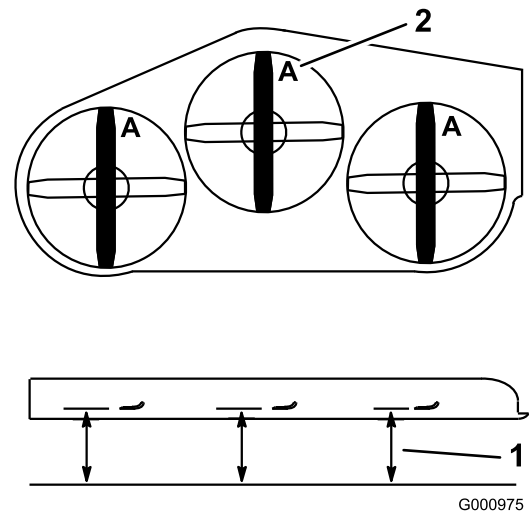

Figure 113
2. Measure from a level surface to the cutting edge, position **A**, of the blades (Figure 113).